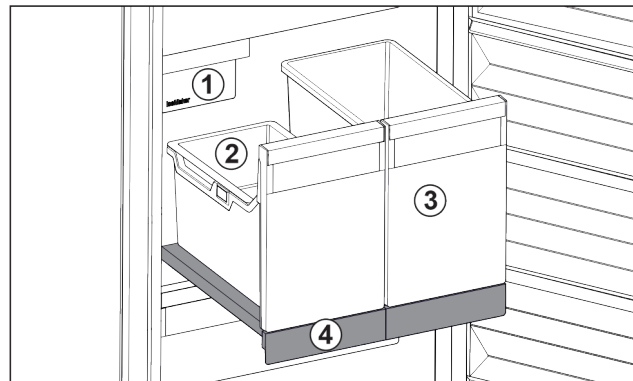

Fig. 116 Pull-out board with IceTower
There are two high (IceTower) containers on the pull-out board. Ice cubes from the IceMaker are collected and stored in the Fig. 116 (2) container. The container Fig. 116 (3) is suitable for storing tall foodstuffs or beverages such as pizzas or alcoholic drinks.